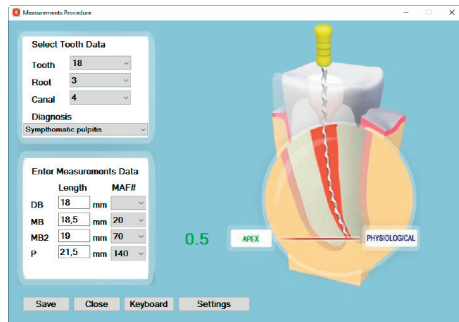
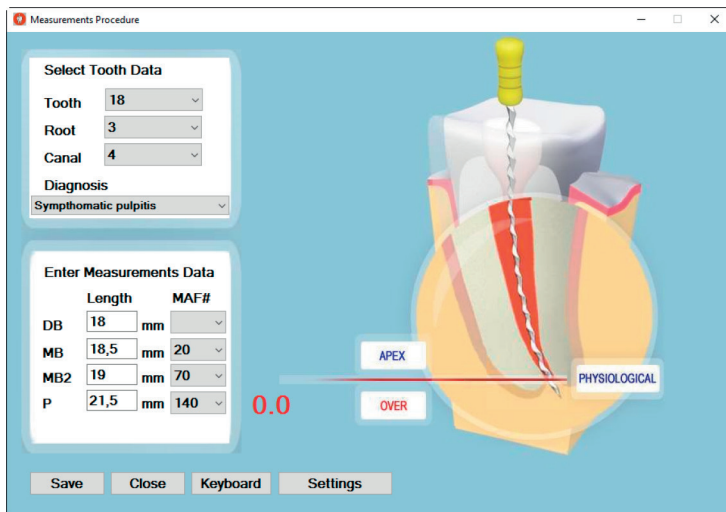

Fig. 21
Fig. 25
11. When the endodontic file reaches the apical constriction (Fig. 21), the read-out on the display will read 0,5, you will hear a fast beeping sound and you will see the file tip touching the APEX PHYSIOLOGICAL line in the root canal model.
Warning: If the endodontic file penetrates the apex (apex physiological) the notice **“OVER”** appears. If the endodontic file reaches apex anatomical a continuous sound is produced with a read-out **0.0** (Fig. 25). Lifting the file up one reaches the apical constriction again (Fig.21) with a typical read-out **0,5** and interrupted sound.
Warning: There is one very important extra feature. If the unit senses a root crack or perforation when the dentist moves the endodontic file in the root canal, it will emit a long, continuous beep, the word **“OVER”** will appear, and the read-out will display **0,0** (Fig. 25). The crack or perforation may exist at any distance in the root canal and it must be carefully filled.